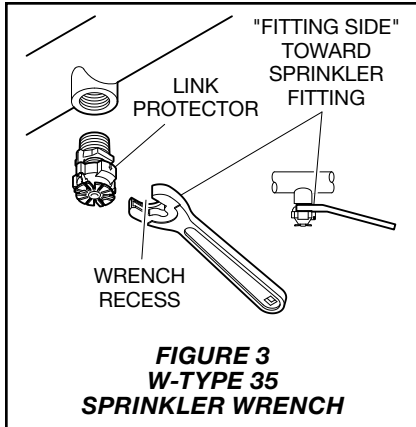

FIGURE 3
Note: *Install the Model ESFR-17 Pendent Sprinkler only in the pendent position as shown in Figure 3.*
Step 2. Wrench-tighten the Model ESFR-17 Sprinkler using only the W-Type 35 Sprinkler Wrench as shown in Figure 3, and by fully engaging (seating) the wrench on the sprinkler wrench flats as shown in Figures 1 and 2.